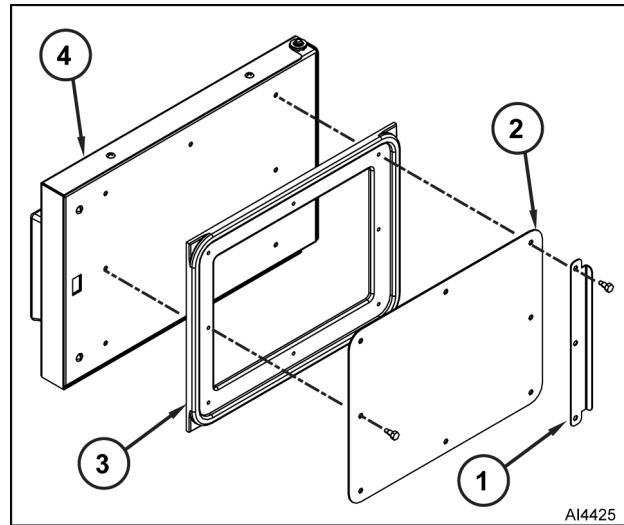

Fig. 12
2. Remove shoulder screws, gasket door guard (1, Fig. 12), and gasket door retainer (2) from door assembly (4).